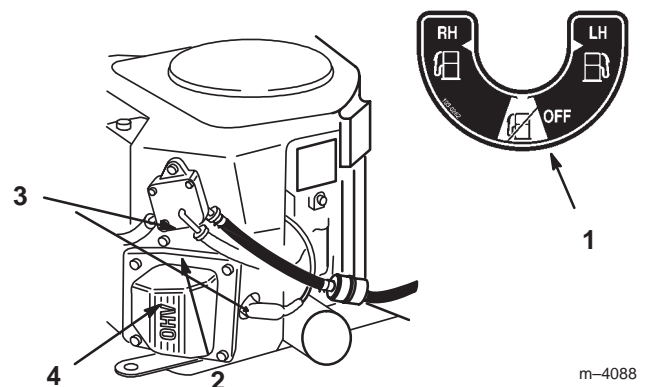

Figure 37
- Install a new filter and move the hose clamps close to the filter (Fig. 37).
- Close the fuel shut-off valve (Fig. 37).
- Loosen the hose clamp at the fuel filter and slide it up the fuel line away from the fuel filter (Fig. 37).
- Pull the fuel line off of the fuel filter (Fig. 37).
- Open the fuel shut-off valve for the left and right tanks. Allow gasoline to drain into a gas can or drain pan (Fig. 37).
- Install the fuel line onto the fuel filter. Slide the hose clamp close to the fuel filter to secure the fuel line (Fig. 37).